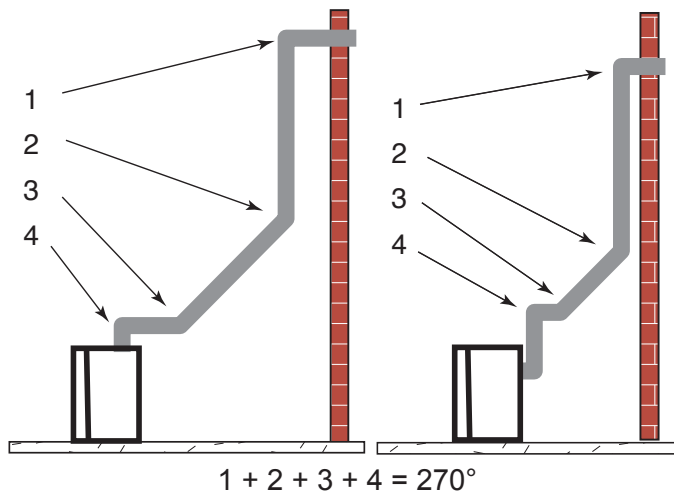

Figure 24 - Maximum Elbow Usage
- The maximum number of elbow degrees in a system is 270°. *Figure 24*